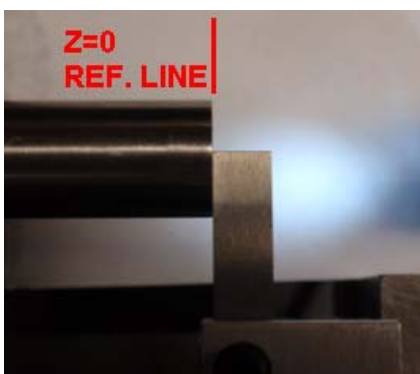

FIGURE 4.1.3
The master tool is aligned such that it is flush with the face of the reference, thus the tool holder and post are now perpendicular to the X axis and the tool edge is at Z=0 reference in Figure 4.1.3. The tool is then aligned to the OD of the reference, thus the master tool is at a known reference location X =0 as shown in Figure 4.1.4.
1. The stock is placed in the chuck. The master tool is aligned to the stock such that the edge is placed at the face and center of the stock. ( same as previously shown in Figure 4.1.3 and repeated here)